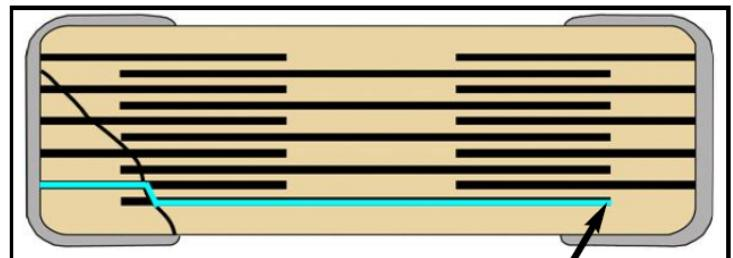

Figure 7 – Flex crack does not complete circuit - no short circuit failure.
• For lower capacitance values, KEMET offers the Floating Electrode (FE-CAP) design. This is also known in the industry as a Serial Cap design, as the Floating Electrode part contains two parts in series, within a singular capacitor body. In Automotive (Clamp 30) designs, sometimes 2 distinct capacitors will be used in series on the PCB – the FE-CAP gives a designer this “two parts in series” - within a singular capacitor. This solution works by eliminating the short-circuit path between electrodes of opposite polarity (See Figure 7).